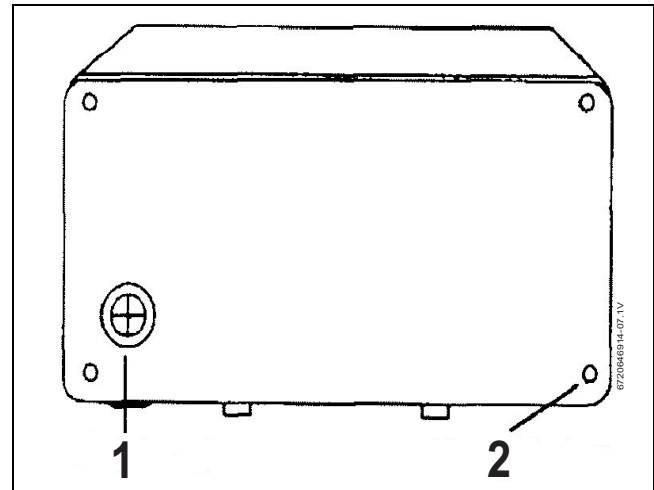

Fig. 8 Back of unit
- ▶ If it is going through the back of the unit, cut through the grommet on the backplate with a sharp knife. Make sure that you do not remove the grommet from the backplate (Fig. 8):